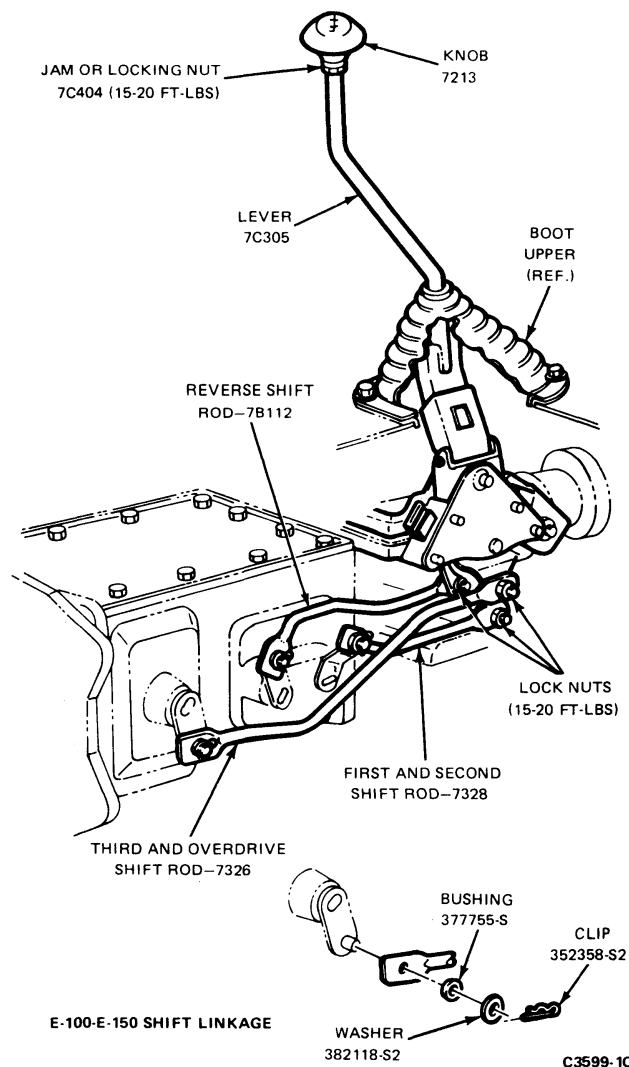

FIG. 3 Shift Linkage Adjustments
Refer to Fig. 3.
9. Remove the extension housing installation tool and slide the forward end of the drive shaft over the transmission output shaft. Connect the driveshaft to the rear U-joint flange. Adjust the linkage following the instructions in Fig. 3.